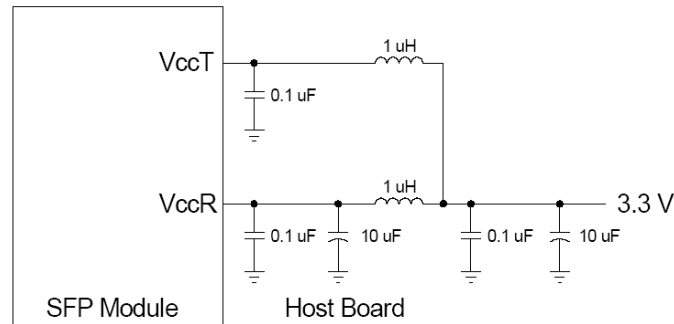

Figure 4, Recommended Host Board Power Supply Filtering Network
6. V_{cc}R and V_{cc}T are the receiver and transmitter power supplies. They are defined as 3.3V \pm 5% at the SFP connector pin. Maximum supply current is 300 mA. Recommended host board power supply filtering is shown in figure 4. Inductors with DC resistance of less than 1 Ω should be used in order to maintain the required voltage at the SFP input pin with 3.3V supply voltage. When the recommended supply filtering network is used, hot plugging of the SFP transceiver module will result in an inrush current of no more than 30 mA greater than the steady state value.